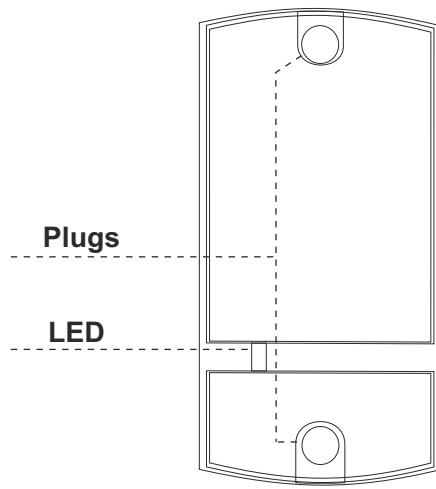

Fig. 2
5. Close the reader case openings with plugs (Fig. 2).